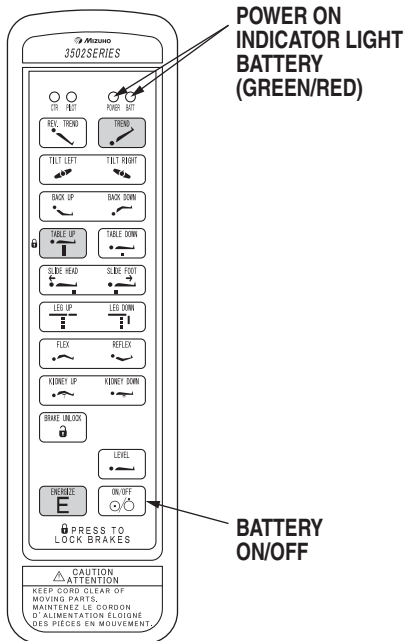

Figure 2-3.
b. Press the BATT ON/OFF button on the hand-held pendant control. The pendant control buttons, the red BATTERY indicator light, located in the upper right corner of the pendant control and the Battery Charge Indicator on the electrical panel will illuminate. See figure 2-3.